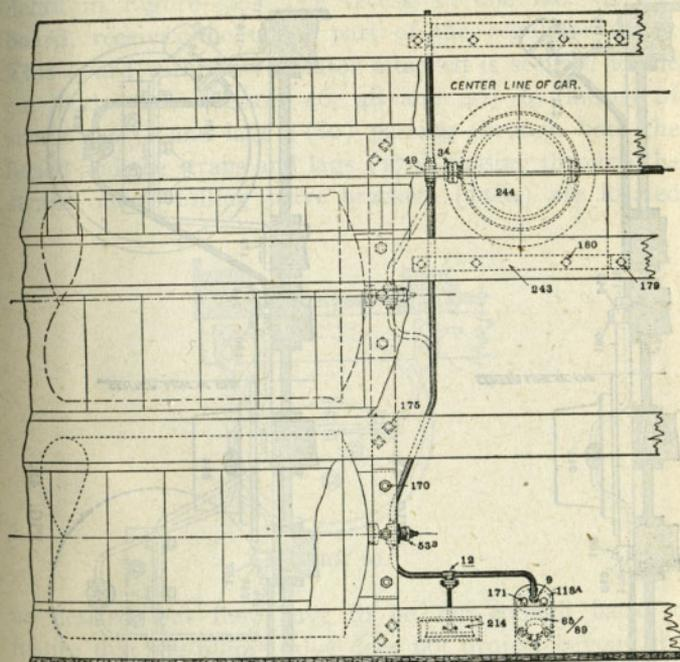
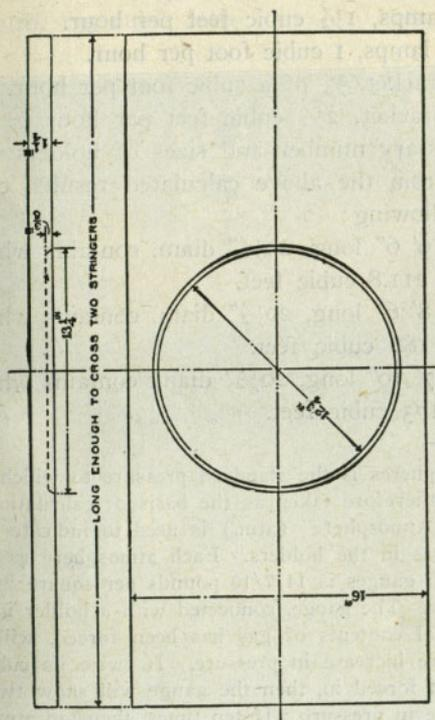

FIG. 46.
FIG. 52.
The arrangement of the gas holder (or holders), the regulator, piping for gas under pressure, filling valves, etc., is shown in Figures 46, 47, 48 and 49. The way the connections are made for an equipment as shown in Figure 45 is shown in Figures 46, 47 and 48 as indicated by the full or solid lines. The method of connecting a second holder on that side of the car is likewise shown as indicated by the broken lines in Figure 46. Two holders, one on each side, are shown in Figure 49 as indicated by the full lines, and a third holder on one side is shown also, as indicated by the broken lines.
detail in Figure 52. The recess, in one face of this board, receives the upper part of the regulator cover. This board with the regulator attached is secured to the car body (see Figures 46, 48 and 49) by means of straps (243) and lags (180) passing through both the board and the straps and lags (179) passing through the straps only. Filling valve brackets (118a) are located
The pipes are bent for gas under pressure, as shown in Figures 46, 47, 48 and 49. All pipes are usually made to drain to the holder fittings (53b) and the gauge pipe must drain to the fitting (12). The threads on the bent pipes are tinned, and are fitted in place after the flanges are screwed on. The brass flanges, etc., are thoroughly soldered to the pipes when all the pipes for gas under